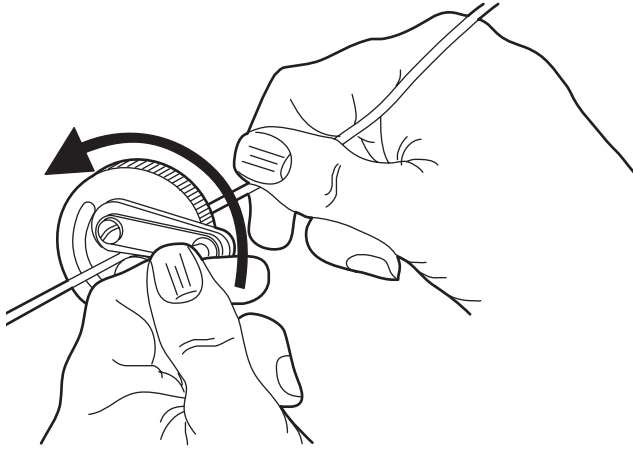

Figure 2-1 Cutting Tubing with a Circular Cutter
2. Use a circular tubing cutter to smoothly cut the tubing to the desired length (Figure 2-1). Rotate the cutter around the tube until it is cleanly scored.